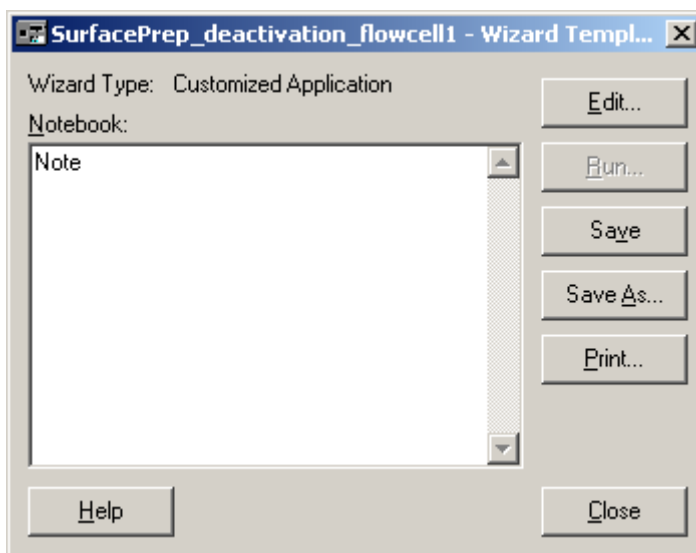

Figure 4.1
- 4.3 Write a note in the Notebook part similar to that shown in Figure 4.1.